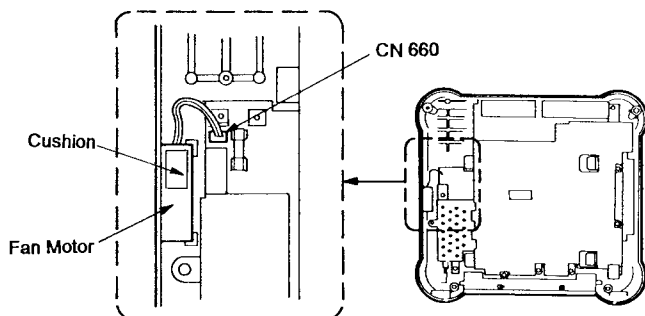

Figure 6
(1) After removing the top case, the CD-ROM drive, and the power transformer, disconnect the connector (CN 660) as shown in Figure 6.
(2) Remove the fan motor.